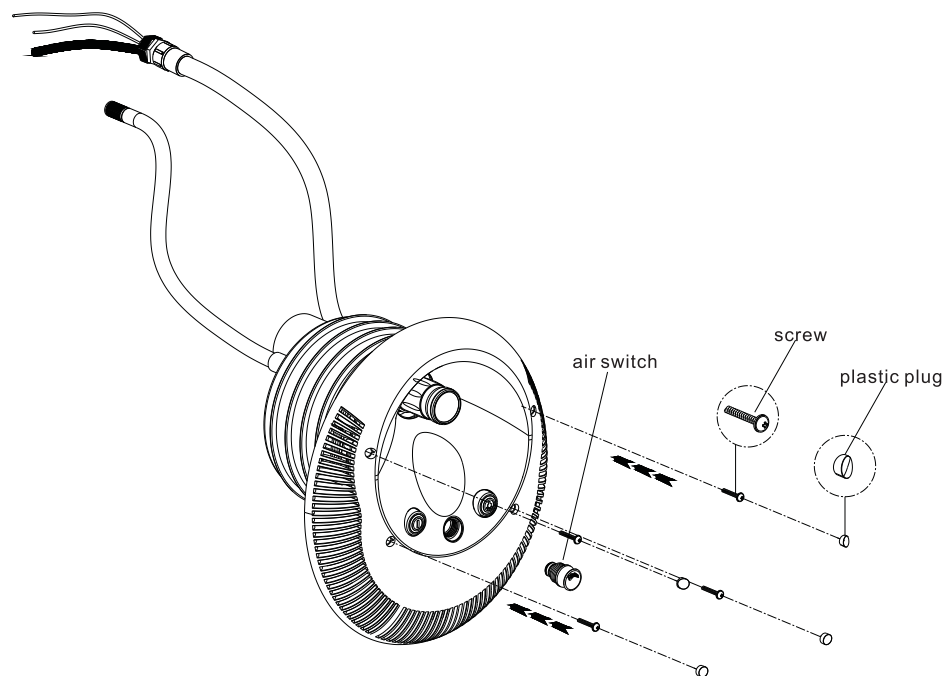

Figure 12
- 4) Install the outer shell onto the support frame, fixed with 4 M5 screws, and then cork the screw hole using plastic cork. (Figure 12)